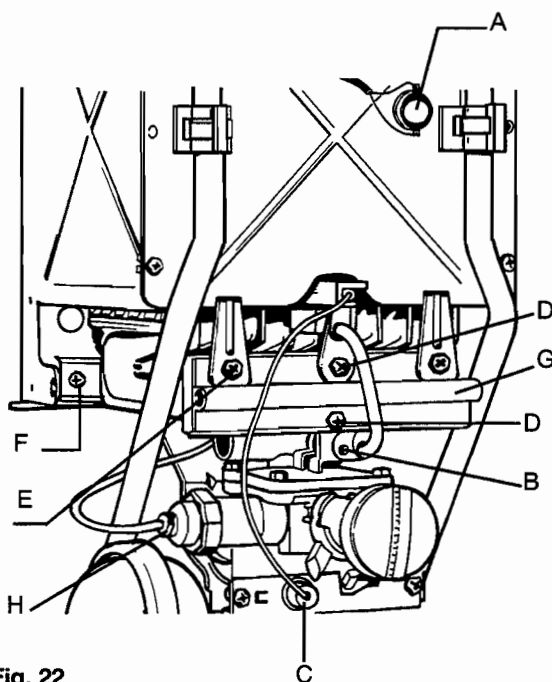

Fig. 22
- a) Remove the thermal switch (A) by pulling forwards from its support bracket (see fig. 22).
- b) Slacken screw (B) at the base of the pilot tube where the pilot tube is joined onto the gas section. Remove tube by pulling forwards.
- c) Remove the electrode lead from the piezo unit cartridge by pulling off (C).
- d) Remove the two screws (D) and the two screws (E) securing the manifold.